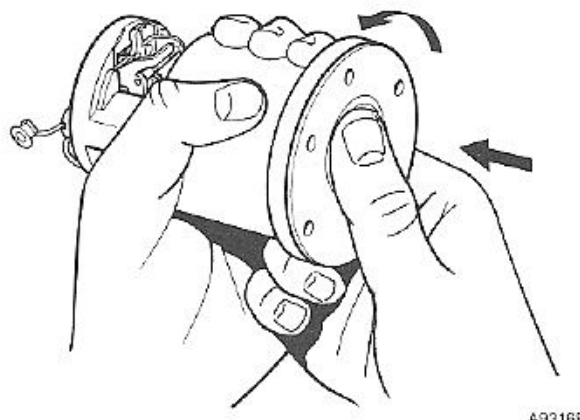

Fig. 6. Setting the diaphragm. Unscrew until the rocker just 'throws over'.
- 11 Holding the coil housing assembly in the left hand in an approximately horizontal position (see Fig. 6) push the diaphragm